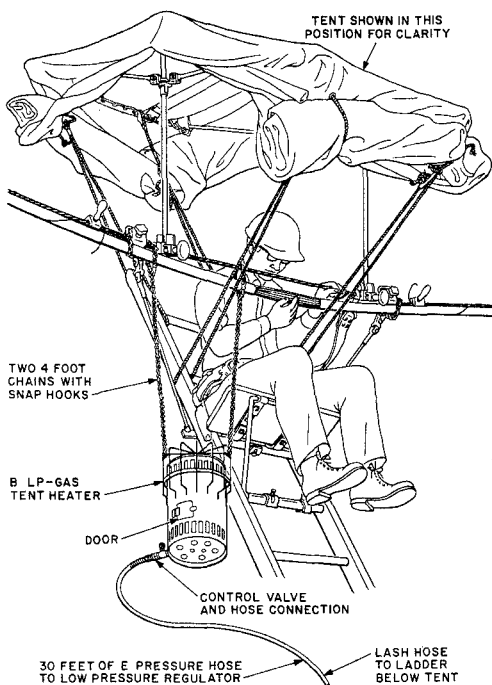

Fig. 3—Heater Attached to Strand
4.02 Close the control valve on the heater and then suspend the heater in the desired position by attaching the 4 foot supporting chains over the strand (Fig. 3).